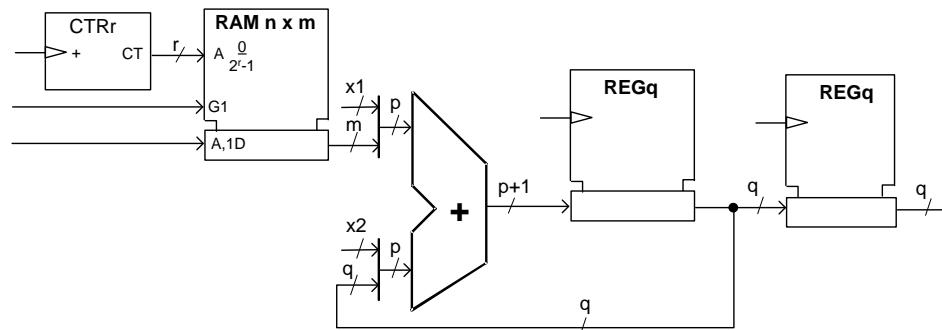

Fig. 2 Architecture template to implement computing of a cumulative sum.
Architecture template of Fig. 2 could be used to implement the computing of cumulative sum
- Complete the RTL description of Fig.2.